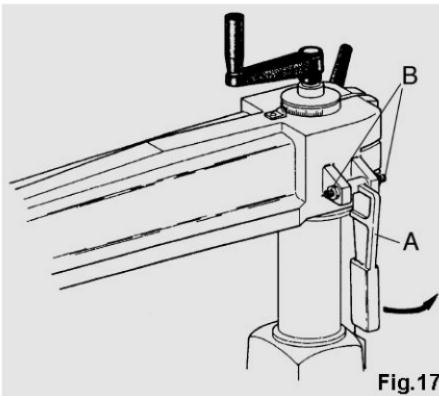

Fig.17
Take the lever (A) out of its envelope (fig.17) and insert it between the grub screws (B). Definitive tightening is to be postponed to the adjustment of the perpendicularity between the arm and the abutting straightedge.